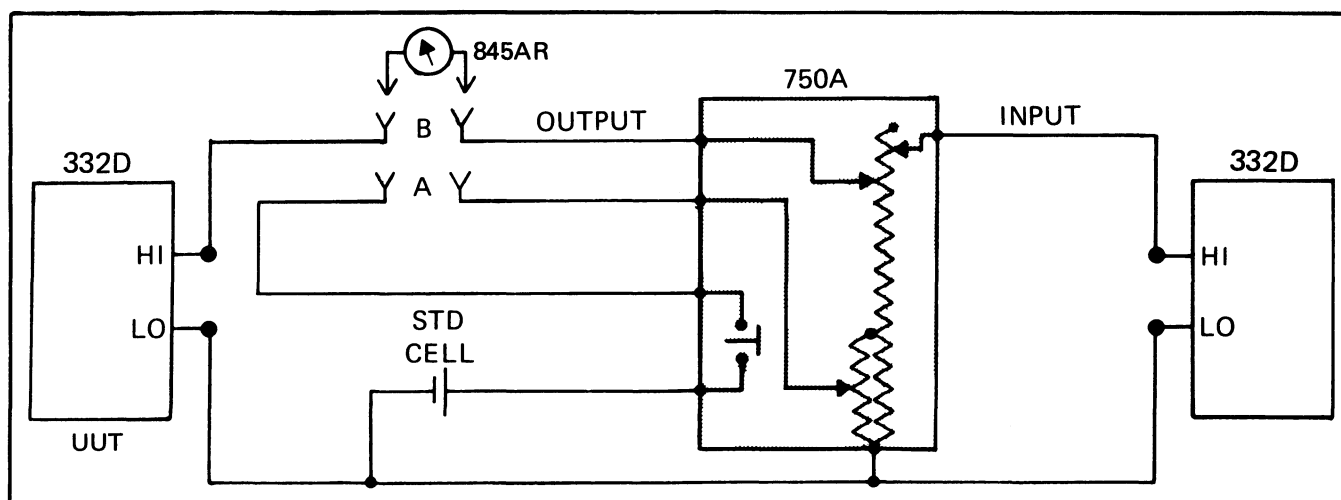

Figure 4-4. CONNECTIONS FOR RANGE CALIBRATION CHECKS
- l. Using the 7101B DC Voltage Calibration System make the equipment connections shown in Figure 4-4.
- p. Connect the 845AR to test points A shown in Figure 4-4.
- s. Connect the 845AR to test points B shown in Figure 4-4. The null indicator should read within the tolerance specified for this step in Table 4-14.